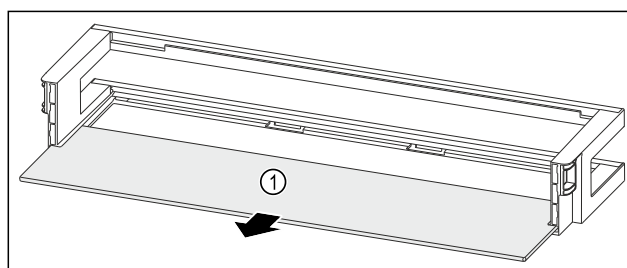

Fig. 91 Door rack with shelf
- Remove the shelf *Fig. 91 (1)*.